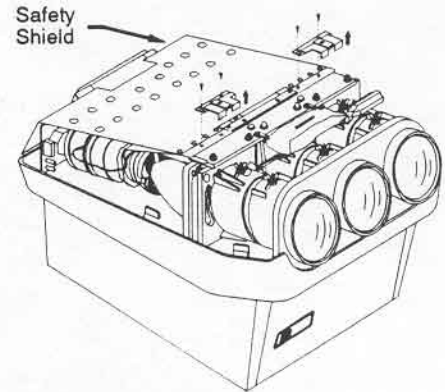

Figure 5-3. Safety Shield Removal
- c) Below the cover is a large plastic safety shield. For most servicing the shield does not require removal. It can simply be lifted to access the components below it. Some servicing however, such as CRT replacement, requires that the shield be removed. To remove the shield, remove the two Phillips screws from each of the two case mounting brackets as shown in Figure 5-3. Remove the brackets and lift the shield away from the projector.